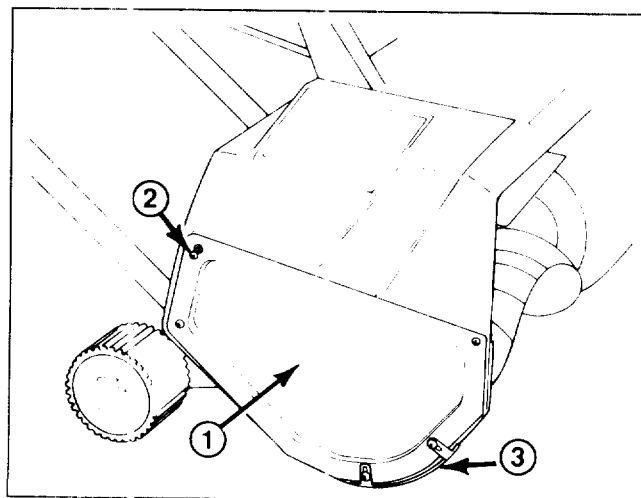

Figure 9
1. Remove (5) screws securing right side cover and skid to snowthrower frame (Fig. 9).